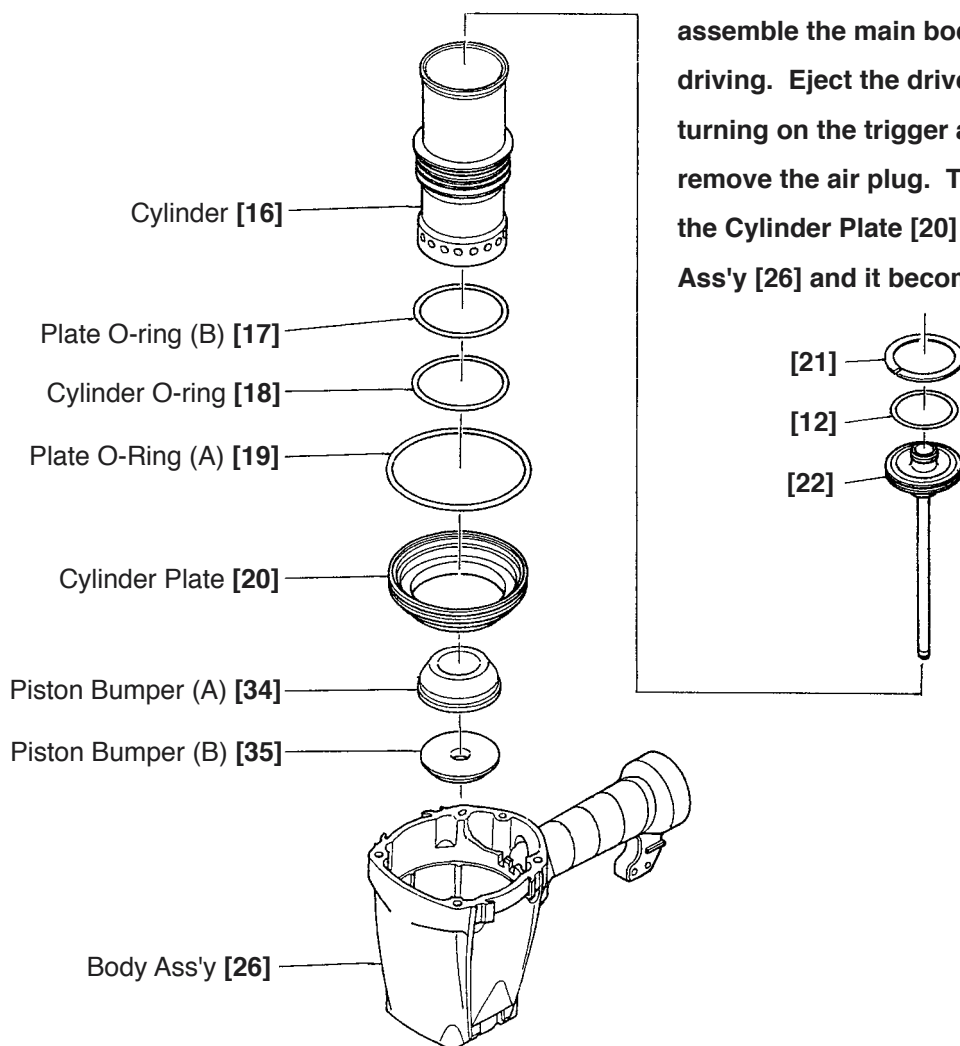

Fig. 15 Disassembly and reassembly of the cylinder, piston, etc.
(2) Disassembly and reassembly of the Cylinder [16], Piston (H) [22], Piston Bumper (A) [34], Piston Bumper (B) [35], Protector [25], etc. (See Figs. 15, 16 and 17.)